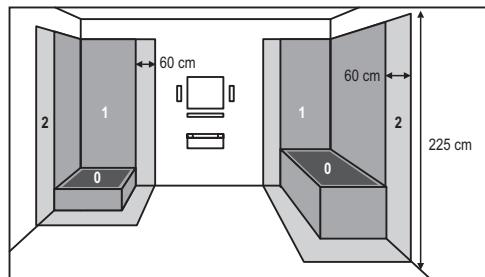

Figure 3. • 3.ábra • 3. obrázok • fig. 3. • 3. skica • 3. obrázek • Slika 3.
22. It is STRICTLY PROHIBITED to install or use the appliance in zones 0 and 1 of premises containing bathtubs or showers (see Figure 3!).
2. It is STRICTLY PROHIBITED to install or use the appliance in zones 0 and 1 of premises containing bathtubs or showers (see Figure 3.).